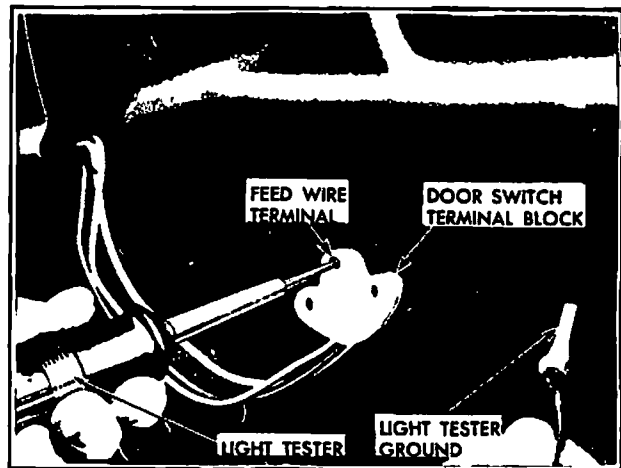

Figure 2-6
Connect one light tester lead to feed terminal of switch block and ground other tester lead to body metal. (See Figure 2-6).
- (A) Connect one light tester lead to feed terminal of switch block and ground other lead to body metal. Refer to Figure 2-6
- (B) If tester fails to light, there is an open or short circuit between switch and power source.
- (A) Disconnect terminal block from switch.
- (B) Determine if there is current to the switch terminal block. Fig. 2-6.
- (C) Using a jumper wire, repeat the checking process outlined in Step 3 above.